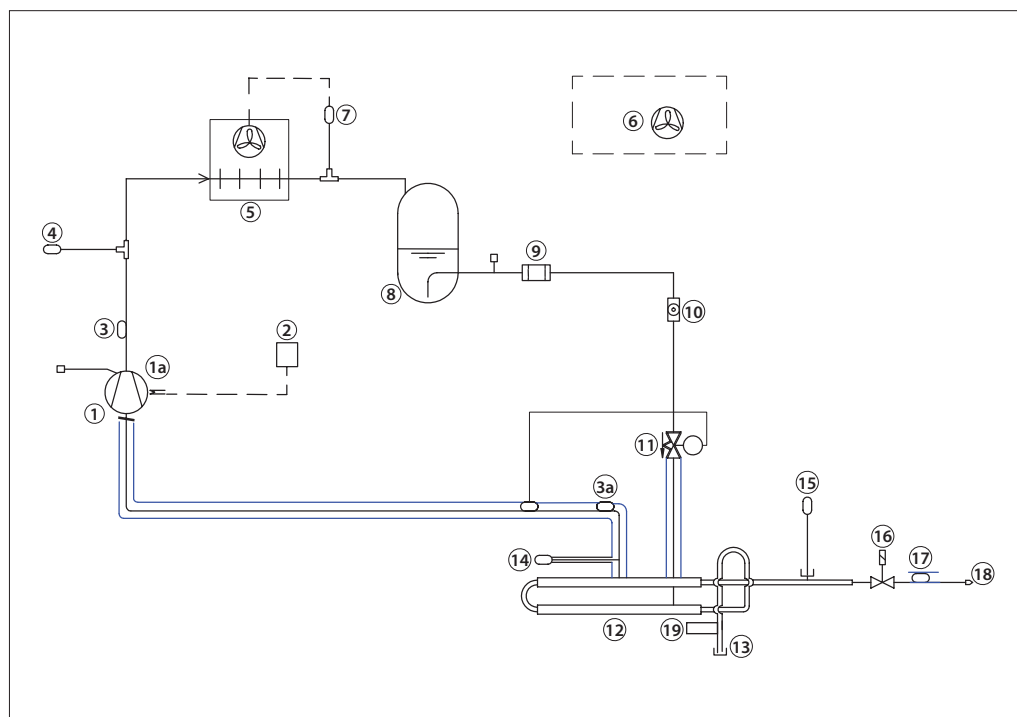

Fig. 1 - Purger R452A lay-out
\*\* See Fig. 1 and Fig. 10a
Only 1 mechanical connection is needed for the purger (see fig. 1). The flow of ammonia/NC gases from the main plant is done through the flange for ammonia (see 13 in Fig. 1 below), while the NC gas purge is done through the blow-off pipe after the purge restrictor (18).